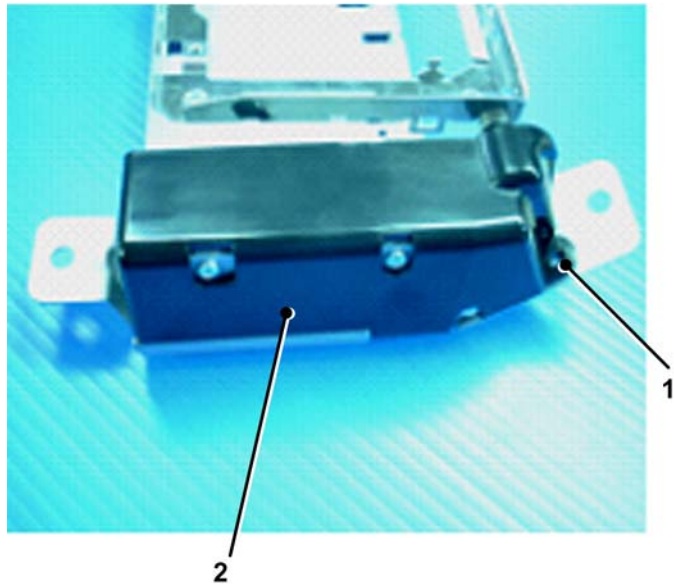

Figure 3
3. Remove the M3 screw (1) that attaches the plastic cover (2) (see Figure 3).